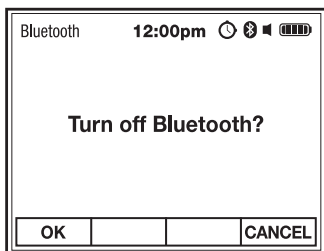

Fig. 22
2. Use the F1 OK soft key to turn Bluetooth® on or off and return to Meter Settings (Fig. 22).